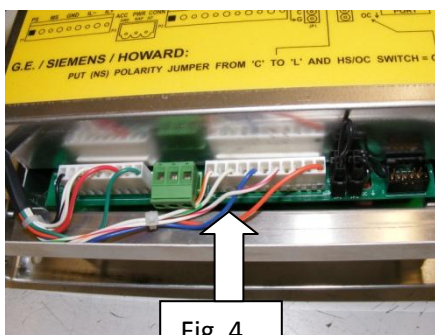

Fig. 4
- Connect the harness to the UVR-1/USC-II (**See Fig. 4**).